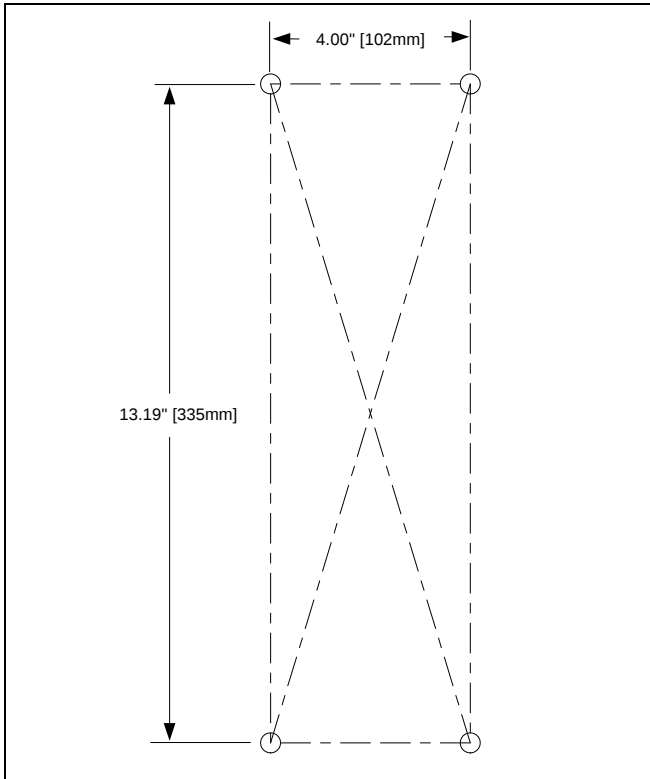
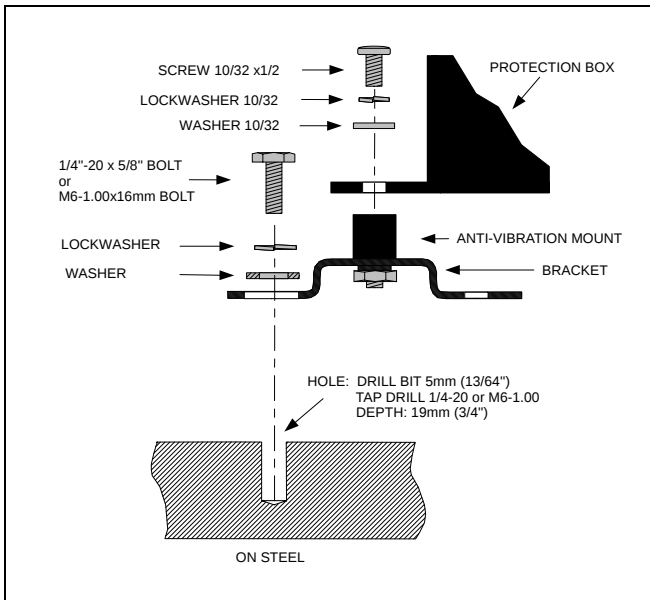
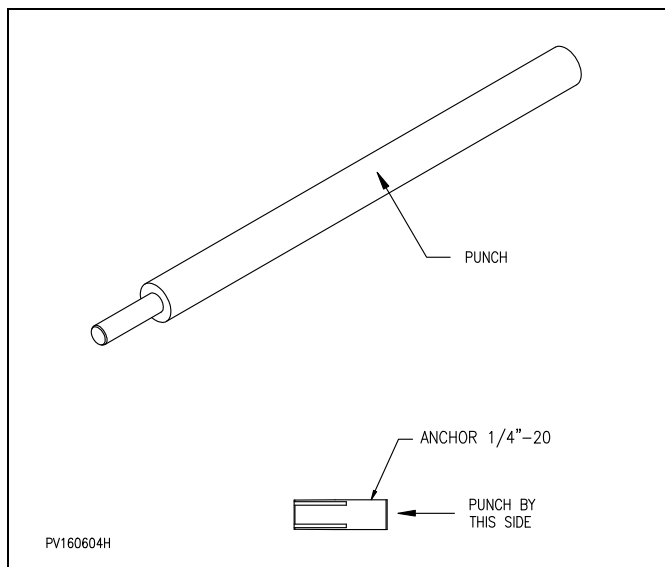

Figure 6 : Mounting holes location
Figure 7 : Fastening the ABS protection box on steel
Figure 9 : Anchor setting punch for concrete anchors
1. Drill (refer to Figure 6 : "Mounting holes location") and thread into the structure (refer to Figure 7 : "Fastening the ABS protection box on steel").
1. Drill into the concrete wall (refer to *Figure 6 : "Mounting holes location"*) and drive the anchor bolts with the special punch (*Figure 9 : "Anchor setting punch for concrete anchors"*).